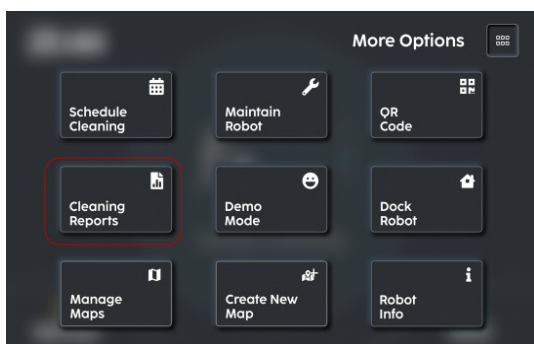

FIGURE 7-15
2. Select the 'Cleaning Report' button (**Fig. 7-15**).